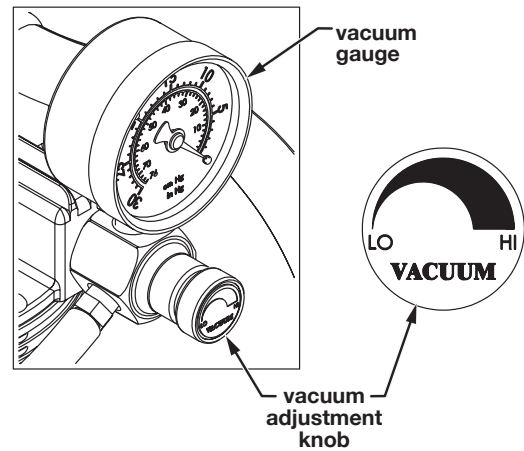

Figure 4
3. Adjust the vacuum level from 0 to 560 mmHg by turning the vacuum adjust knob (clockwise to increase vacuum and counter-clockwise to decrease vacuum) (Figure 4). Refer to the vacuum gauge while setting the desired vacuum level. To accurately read the gauge, block the patient end of the hose or cap off the collection bottle and allow the gauge to reach a stable vacuum reading.